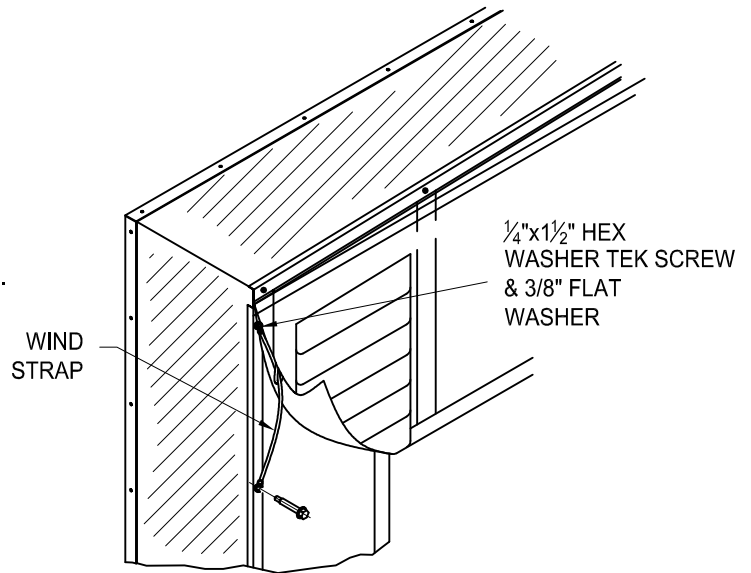

FIG. 12
- * Secure wind straps with $\frac{1}{4}$ " x $1\frac{1}{2}$ " hex washer tek screws and $\frac{1}{4}$ " BS flat washers (fig. 12). Bungee must be snug.